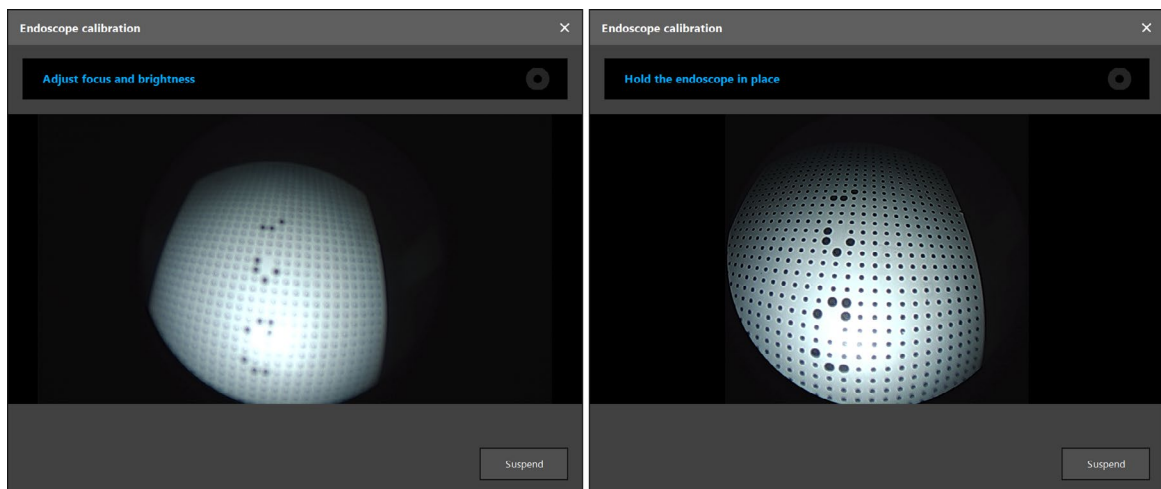

Figure 136 Calibration dialog: Left – image defocused and overexposed; right – optimal image
4. If the calibration pattern is not recognized during calibration, adjust the zoom, focus, and if applicable brightness so that the calibration pattern is clearly recognized (Figure 136). Refer to the message bar for suggested improvements.